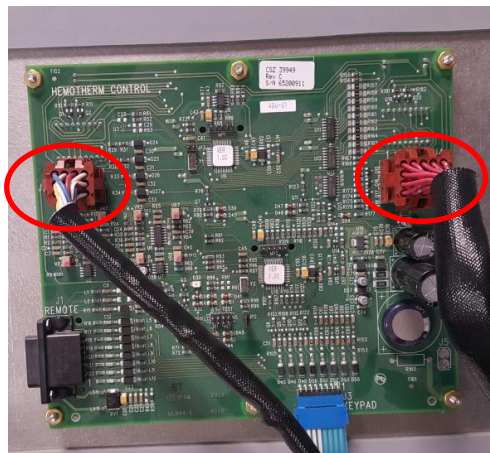

Figure 30
15. Plug in the other two (2) cables at J2 and J4 as shown in *Figure 30*. Verify that the connections are fully seated.